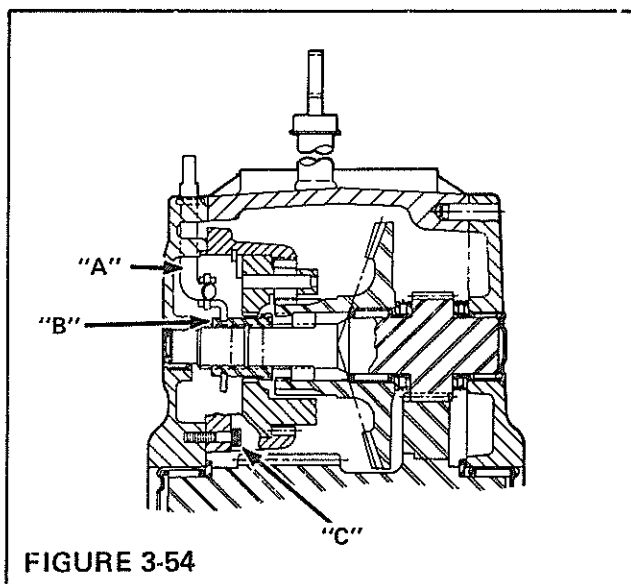

FIGURE 3-54
7. Before assembling, install roll pin into shifting arm (A), Figure 3-54 and fork.
8. Slide fork into groove of sliding gear (B). (Gently tap with a hammer until fork is completely in the groove.)
9. Install planetary carrier assembly & pinion shaft assembly into left axle housing by sliding shifting fork into hole in cover and rotating into position. Install four screws (C). Do not tighten until cluster gear is properly installed. Once cluster gear is properly installed with proper washers, torque four screws on planetary carrier to 18 ft. lbs. (24 Nm).